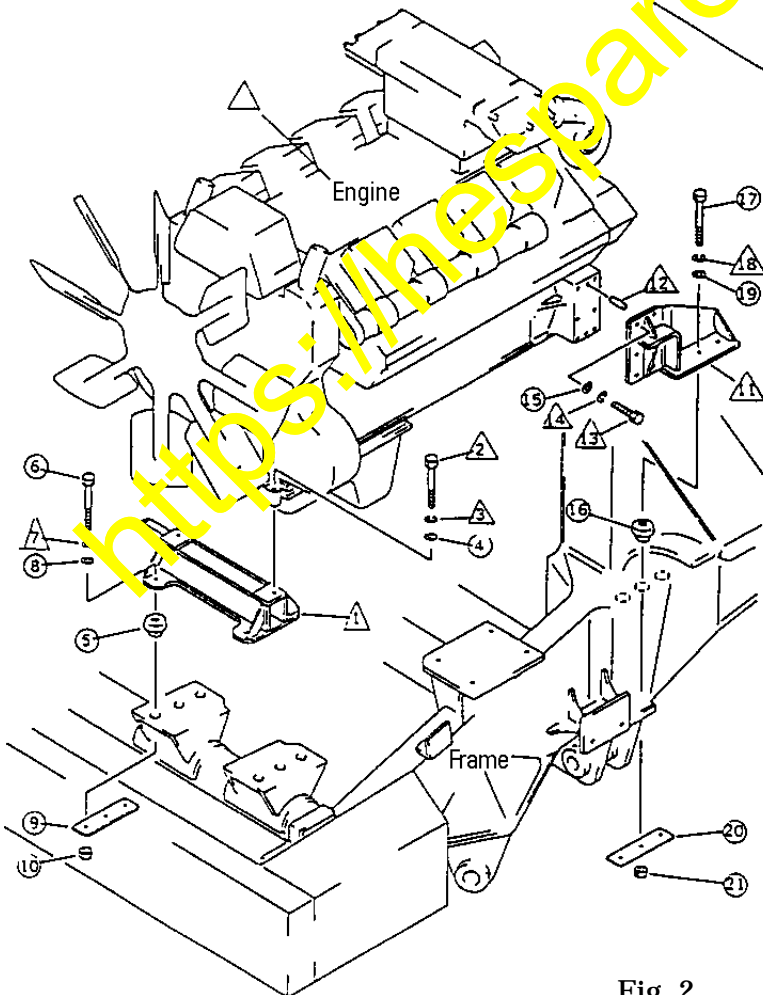

Fig. 2
- (1) Remove the existing engine mount. (See Fig. 2)